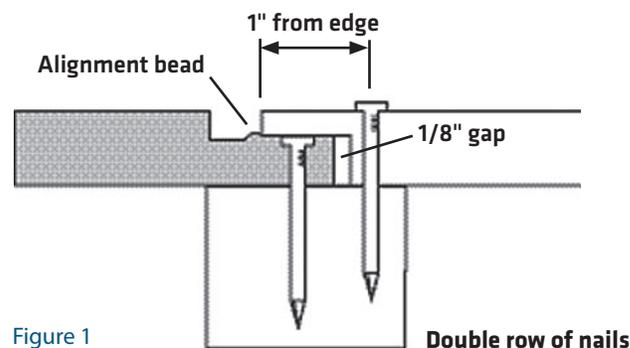
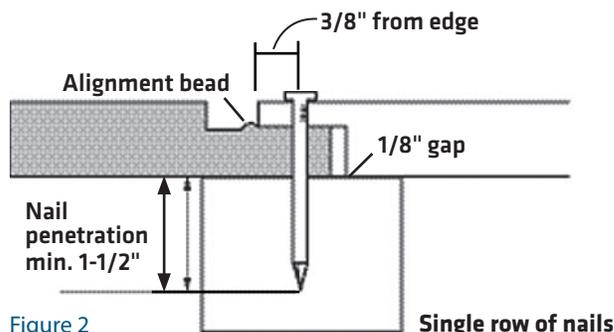

Figure 1
Figure 2
- **DO NOT INSTALL OVER ALIGNMENT BEAD.** Install panels in light contact to the edge of alignment bead. (See Figure 1 and Figure 2)